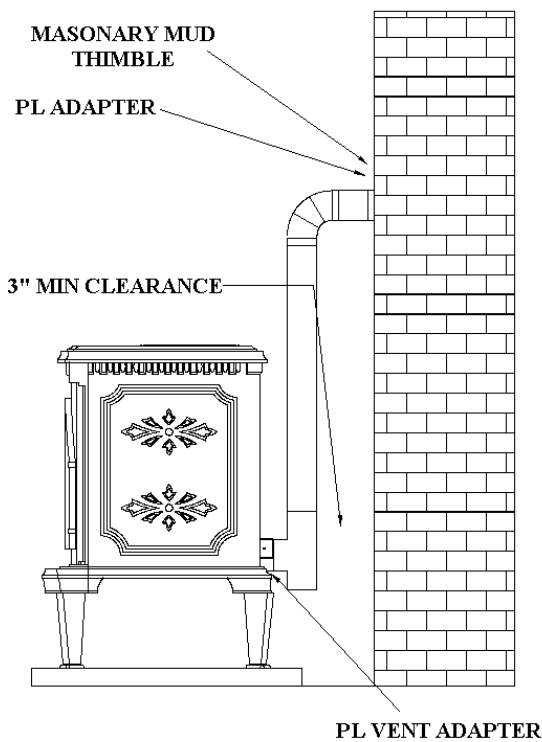

Figure 6.
3. Venting into the side of an existing masonry chimney must be done through a masonry thimble. When wall penetration is necessary to access a masonry chimney, use a listed PL vent wall thimble. (Figure 6).